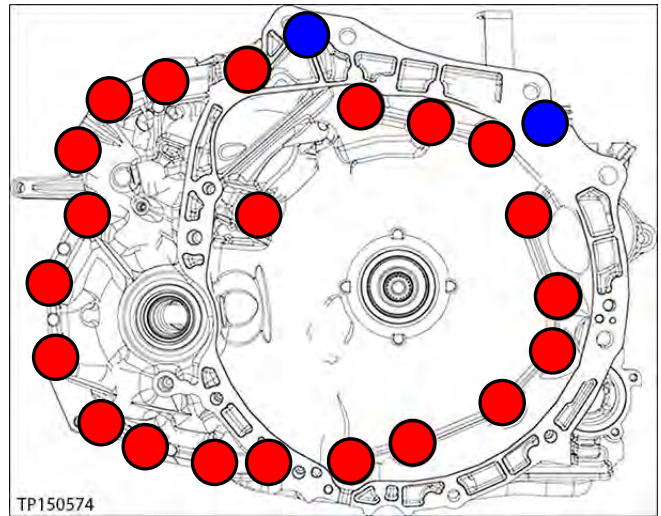

Figure 2
- Remove all 23 converter housing mounting bolts (see Figure 2).